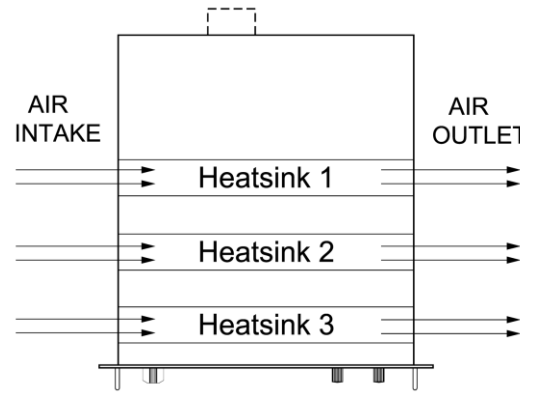

fig 10 -1
- The internal construction of the power supply is such that no dust will reach the sensitive control circuitry, the heat sinks in a tunnel will be cooled by forced air (see fig. 10 - 1)